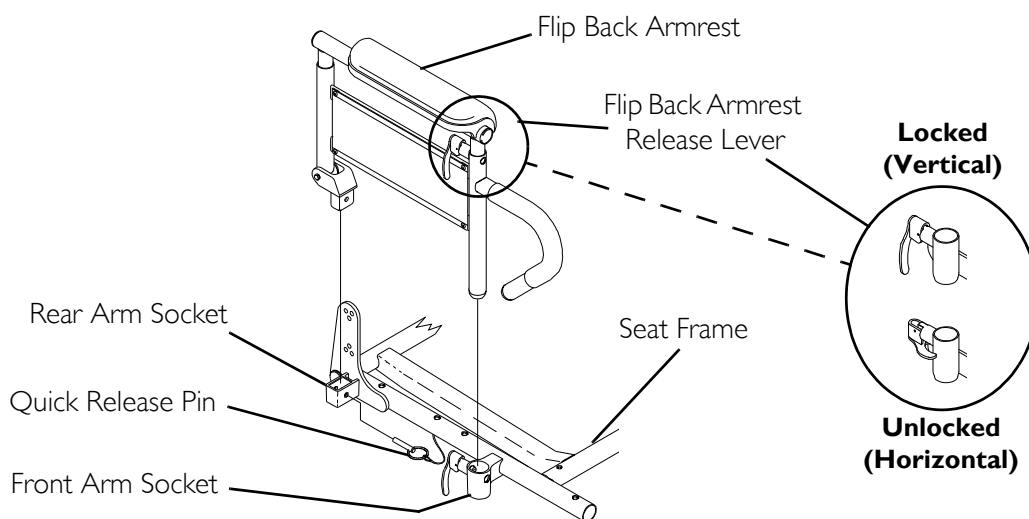

FIGURE 6.1 Installing/Removing Flip Back Armrests
NOTE: For this procedure, refer to FIGURE 6.1 on page 45.
3. Lock flip back armrest by pressing flip back armrest release lever into the locked position (FIGURE 6.1).
1. Unlock flip back armrest by pulling flip back armrest release lever into the unlocked position (FIGURE 6.1).